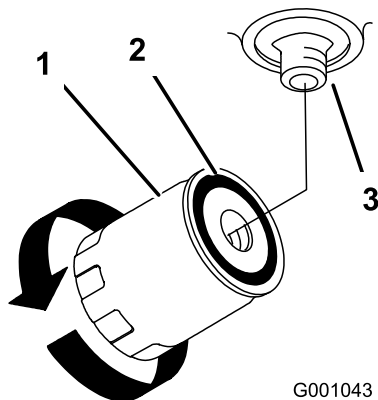

Figure 49
5. Remove the old filter and wipe the filter adapter gasket surface clean (Figure 49).
9. When the hydraulic filter is full, turn the oil filter clockwise until the rubber gasket contacts the filter adapter, then tighten the filter an additional 1/2 turn (Figure 49).